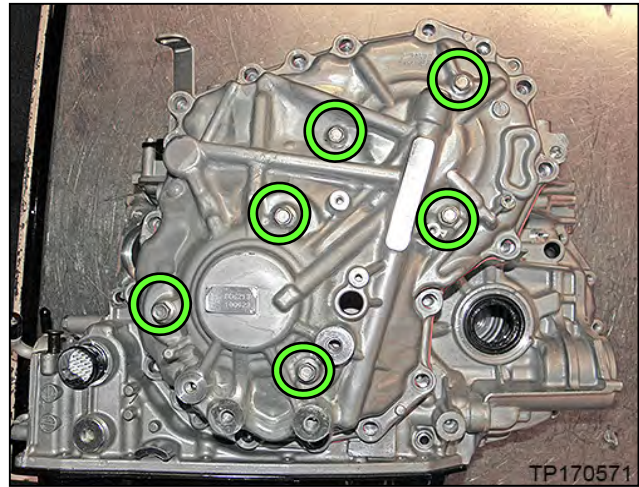

Figure 78
- c. Install the Lifting Fixture to the CVT case at the six (6) bolt holes shown in Figure 78.
1. Tighten the lower six (6) wing-nut bolts.
2. Tighten the two (2) joint to triangle brackets.
3. Tighten the top two (2) wing-nut bolts, and then proceed to step 60 on the next page.